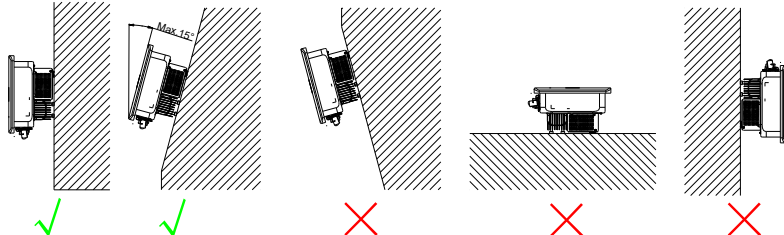

Figure 4.1. Mounting method
- ① The equipment employs natural convection cooling method, and it can be installed indoor or outdoor.
- ② Please install the equipment under the guidance of Figure 4.1. Vertical installation on floor level is recommended. Mount vertically or tilted backwards by max. 15°. Never install the inverter tilted forwards, sideways, horizontally or upside down.
- ③ Considering convenience for maintenance, please install the equipment at a position in parallel with line of sight.
- ④ When mounting the inverter, please consider the solidity of wall for inverter, including accessories. Ensure the rear panel mount tightly.